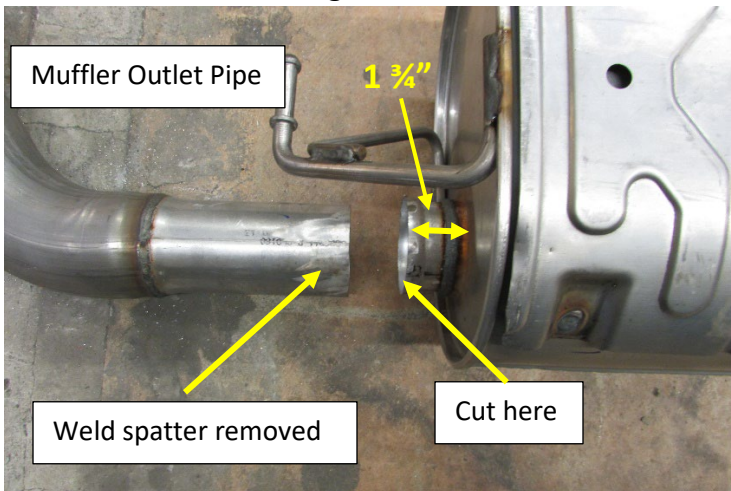

Figure.4
3. Using a reciprocating saw or cut off wheel. Make a clean and straight cut at the mark. **Fig.4**